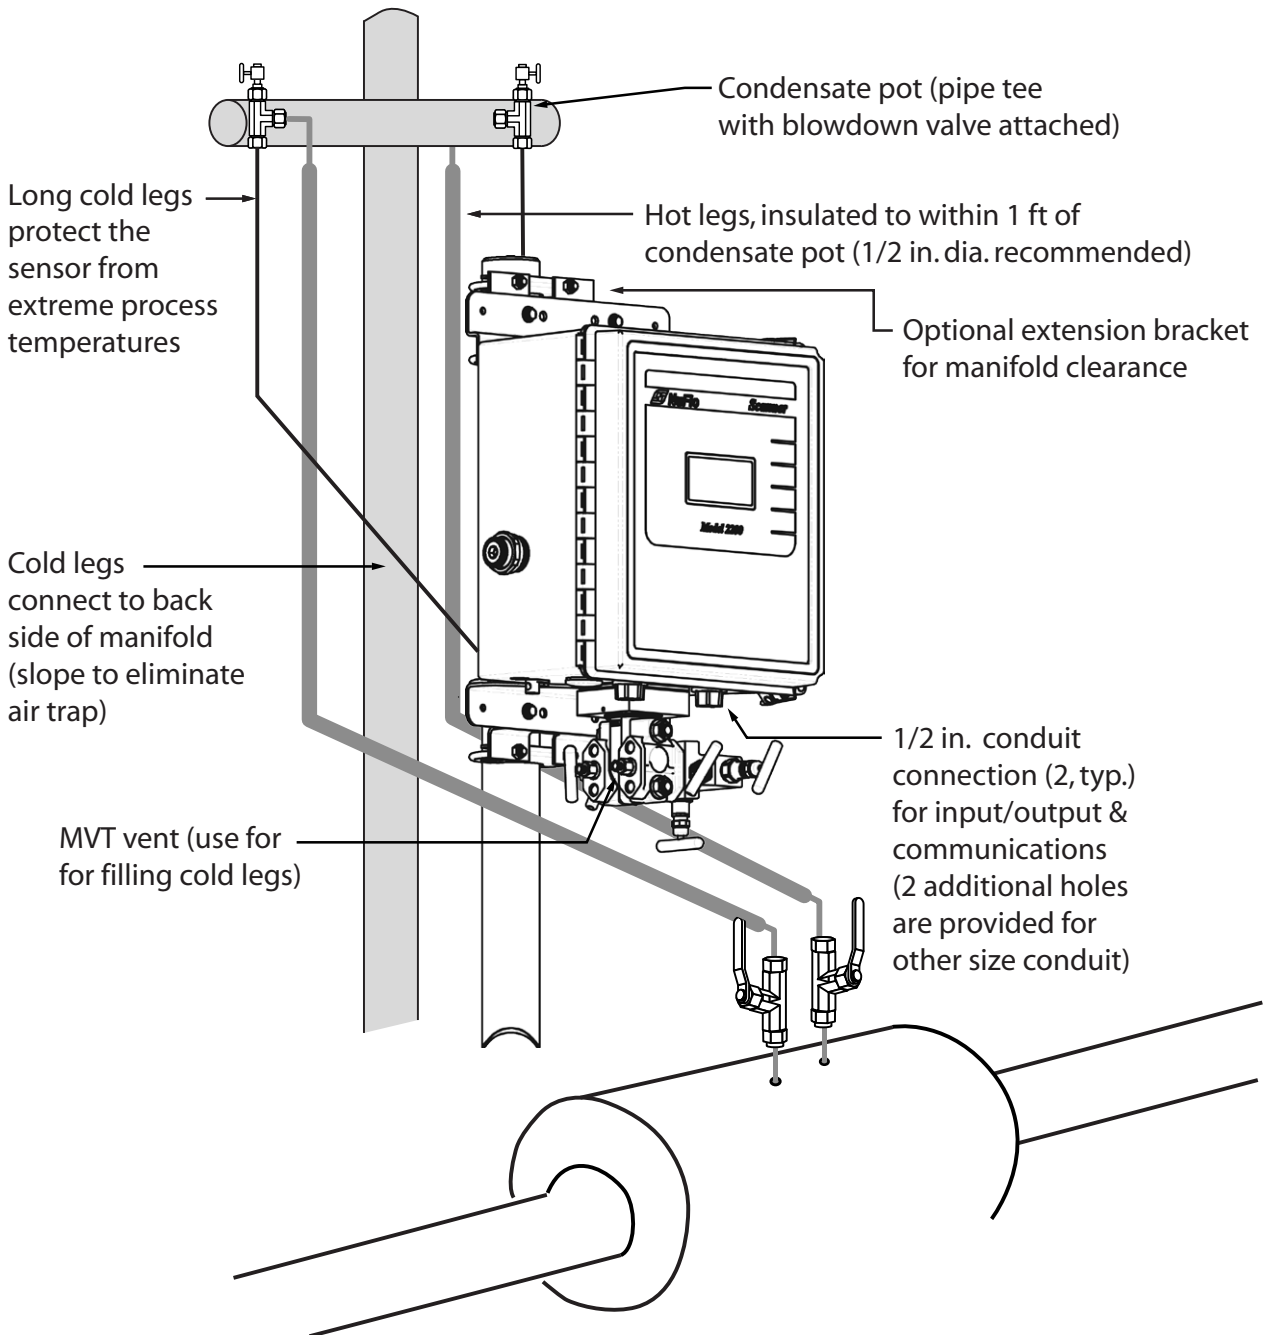

Figure 2.7—Steam run installation (shown here with a cone meter). The same configuration can be used with an orifice meter.
**CAUTION:** When measuring steam, process connections must be designed to eliminate air pockets. This is achieved by making sure all tubing in the cold legs slopes upward. A side-port MVT and block manifold (shown in Figure 2.7, page 33) is recommended to help prevent air bubbles from being trapped in the sensor.